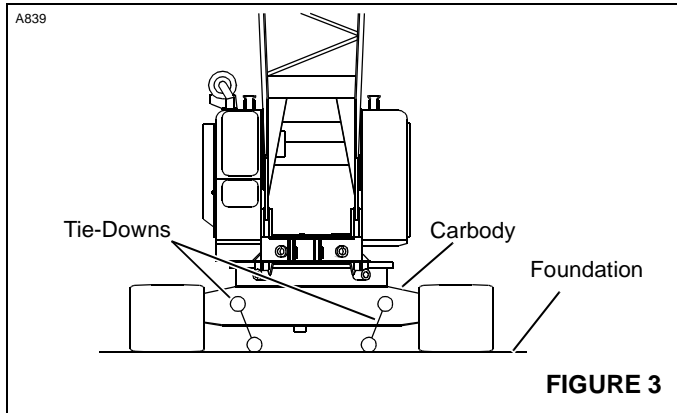

FIGURE 3
1. Crawler-mounted crane with carbody anchored with tie-downs to foundation (Figure 3).